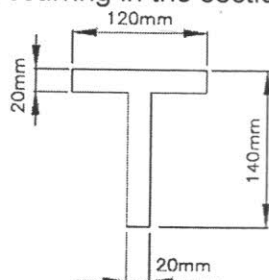

Fig.4(c)
c) The T-section shown in fig.4(c).is used as a simply supported beam over a span of 4 meters. It carries a uniformly distributed load of 8 kN/m over its entire span. Calculate the maximum tensile and compressive stresses occurring in the section.